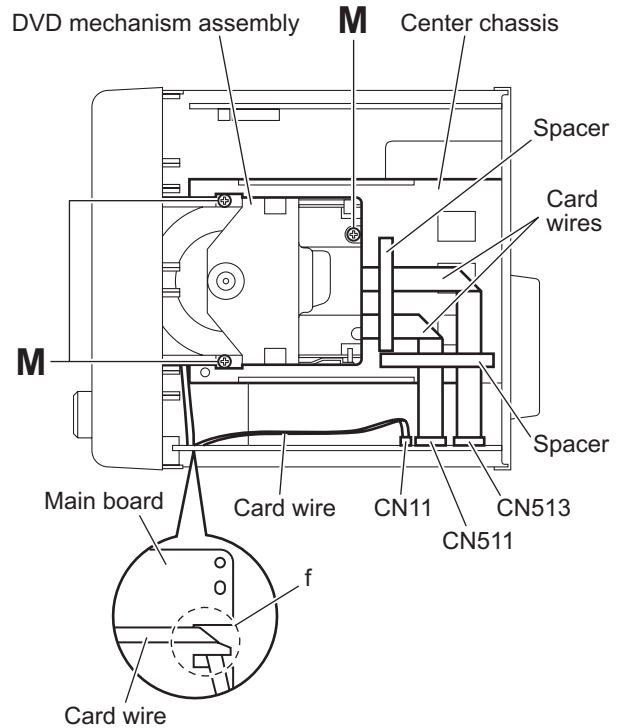

Fig.12
3.1.6 Removing the DVD mechanism assembly (See Figs.12 and 13)
- From the top side of the main body, remove the three screws **M** attaching the DVD mechanism assembly on the center chassis. (See Fig.12.)
- From the forward side of the main board, disconnect the card wires from the connectors (CN11, CN511, CN513). (See Fig.12.)
When reassembly, pass the card wire through the section **f** of the main board before connecting the card wire to the connector CN11. (See Fig.12.)
- Remove the spacers fixing the card wires. (See Fig.12.)
After connecting the card wires, fix them with the spacers as before. (See Fig.12.)